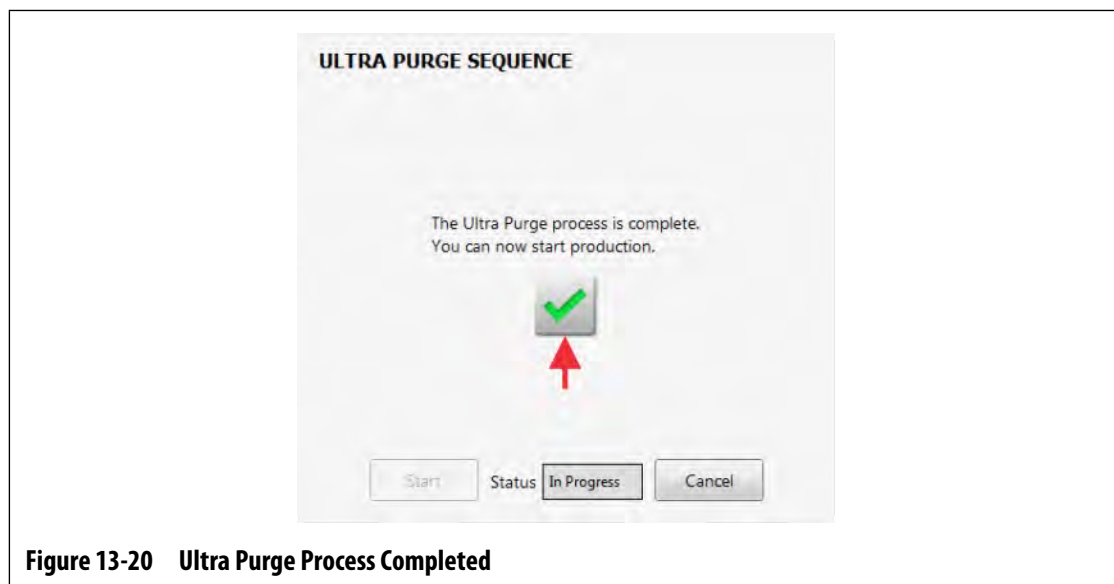

Figure 13-20 Ultra Purge Process Completed
28. Touch the green check mark button to complete the Ultra Purge process (Figure 13-20).